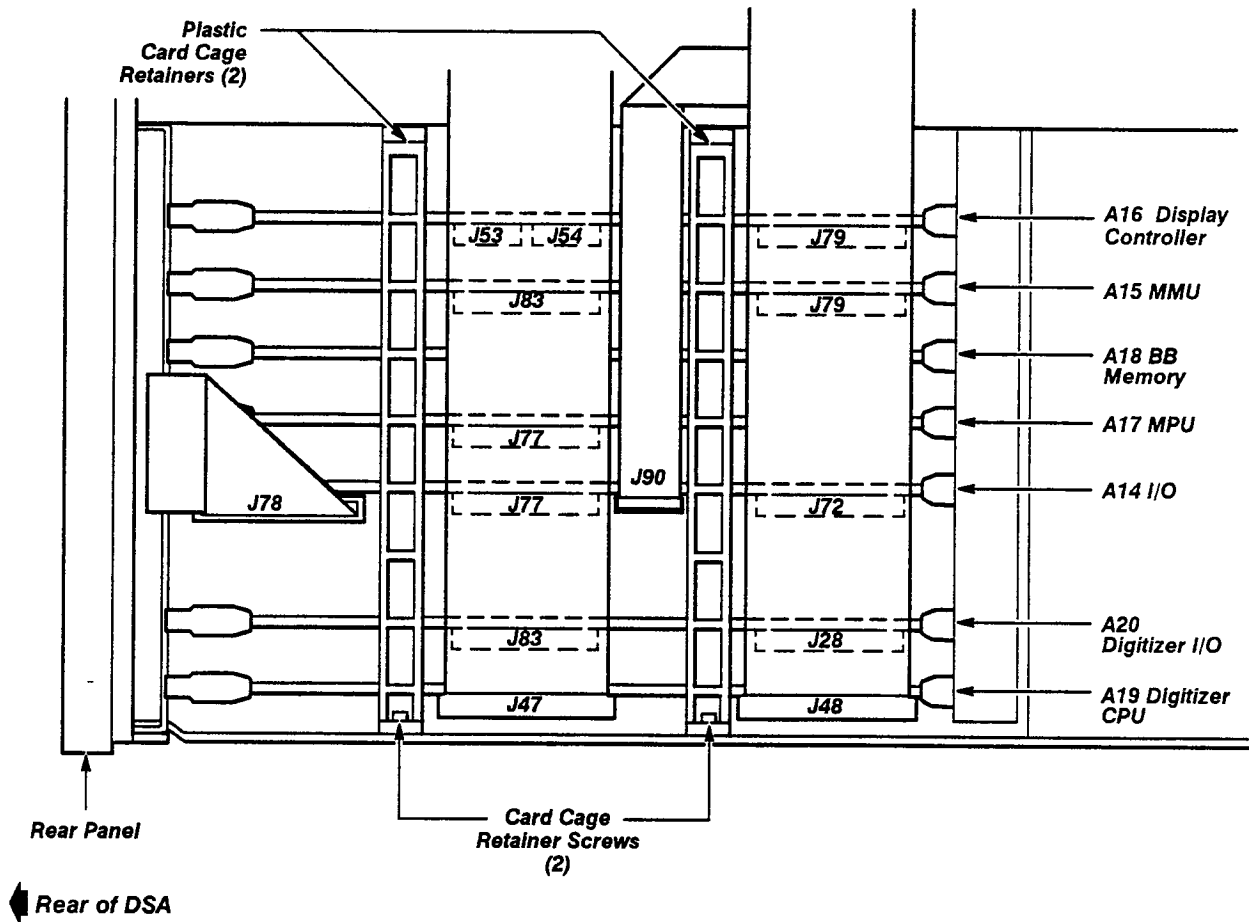

Figure 3, - Top View of the Card Cage.
- 5. Remove the two (2) card cage retainer screws located on the left side of the instrument to remove the two (2) plastic card cage retainers from the top of the card cage. Refer to Figure 3, Top View of Card Cage.